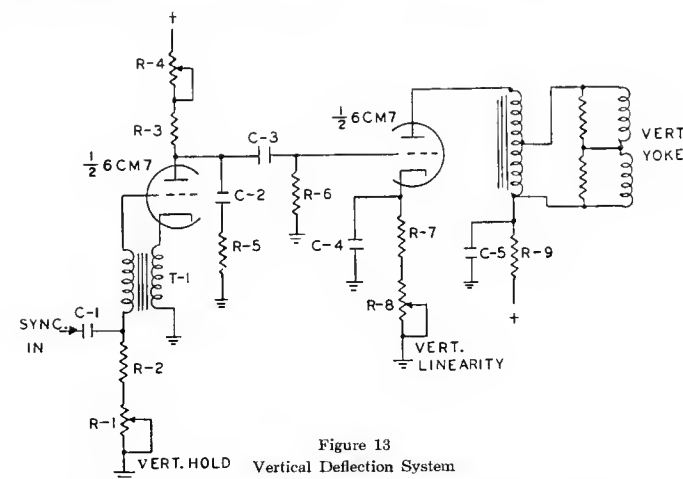

Figure 13
1. Using the Vertical Grid Drive pulse available on the front of the Television Analyst, apply this signal to the vertical output stage grid (see Fig. 13). If, when this signal is applied, the image develops vertical deflection, then we know that the proper driving signal is not being supplied to the output stage by the vertical oscillator. The defect is either in the oscillator itself or in the capacitor (C-3) coupling the oscillator to the output stage. However, if vertical deflection of the image does not occur when the signal is injected at the grid of the output stage, the defect is located somewhere between this grid and the deflection yoke.
The grid driving pulse signal may not necessarily result in linear deflection on the screen of the television receiver. However, we are primarily interested in the presence or lack of deflection. A closer approach to good linearity can be obtained by adjusting the linearity control in the receiver (R-8) in Fig. 13 and by adjusting the Vertical Drive Amplitude control located on the front of the Television Analyst. In all cases this control should be at maximum when first starting to troubleshoot vertical deflection systems.